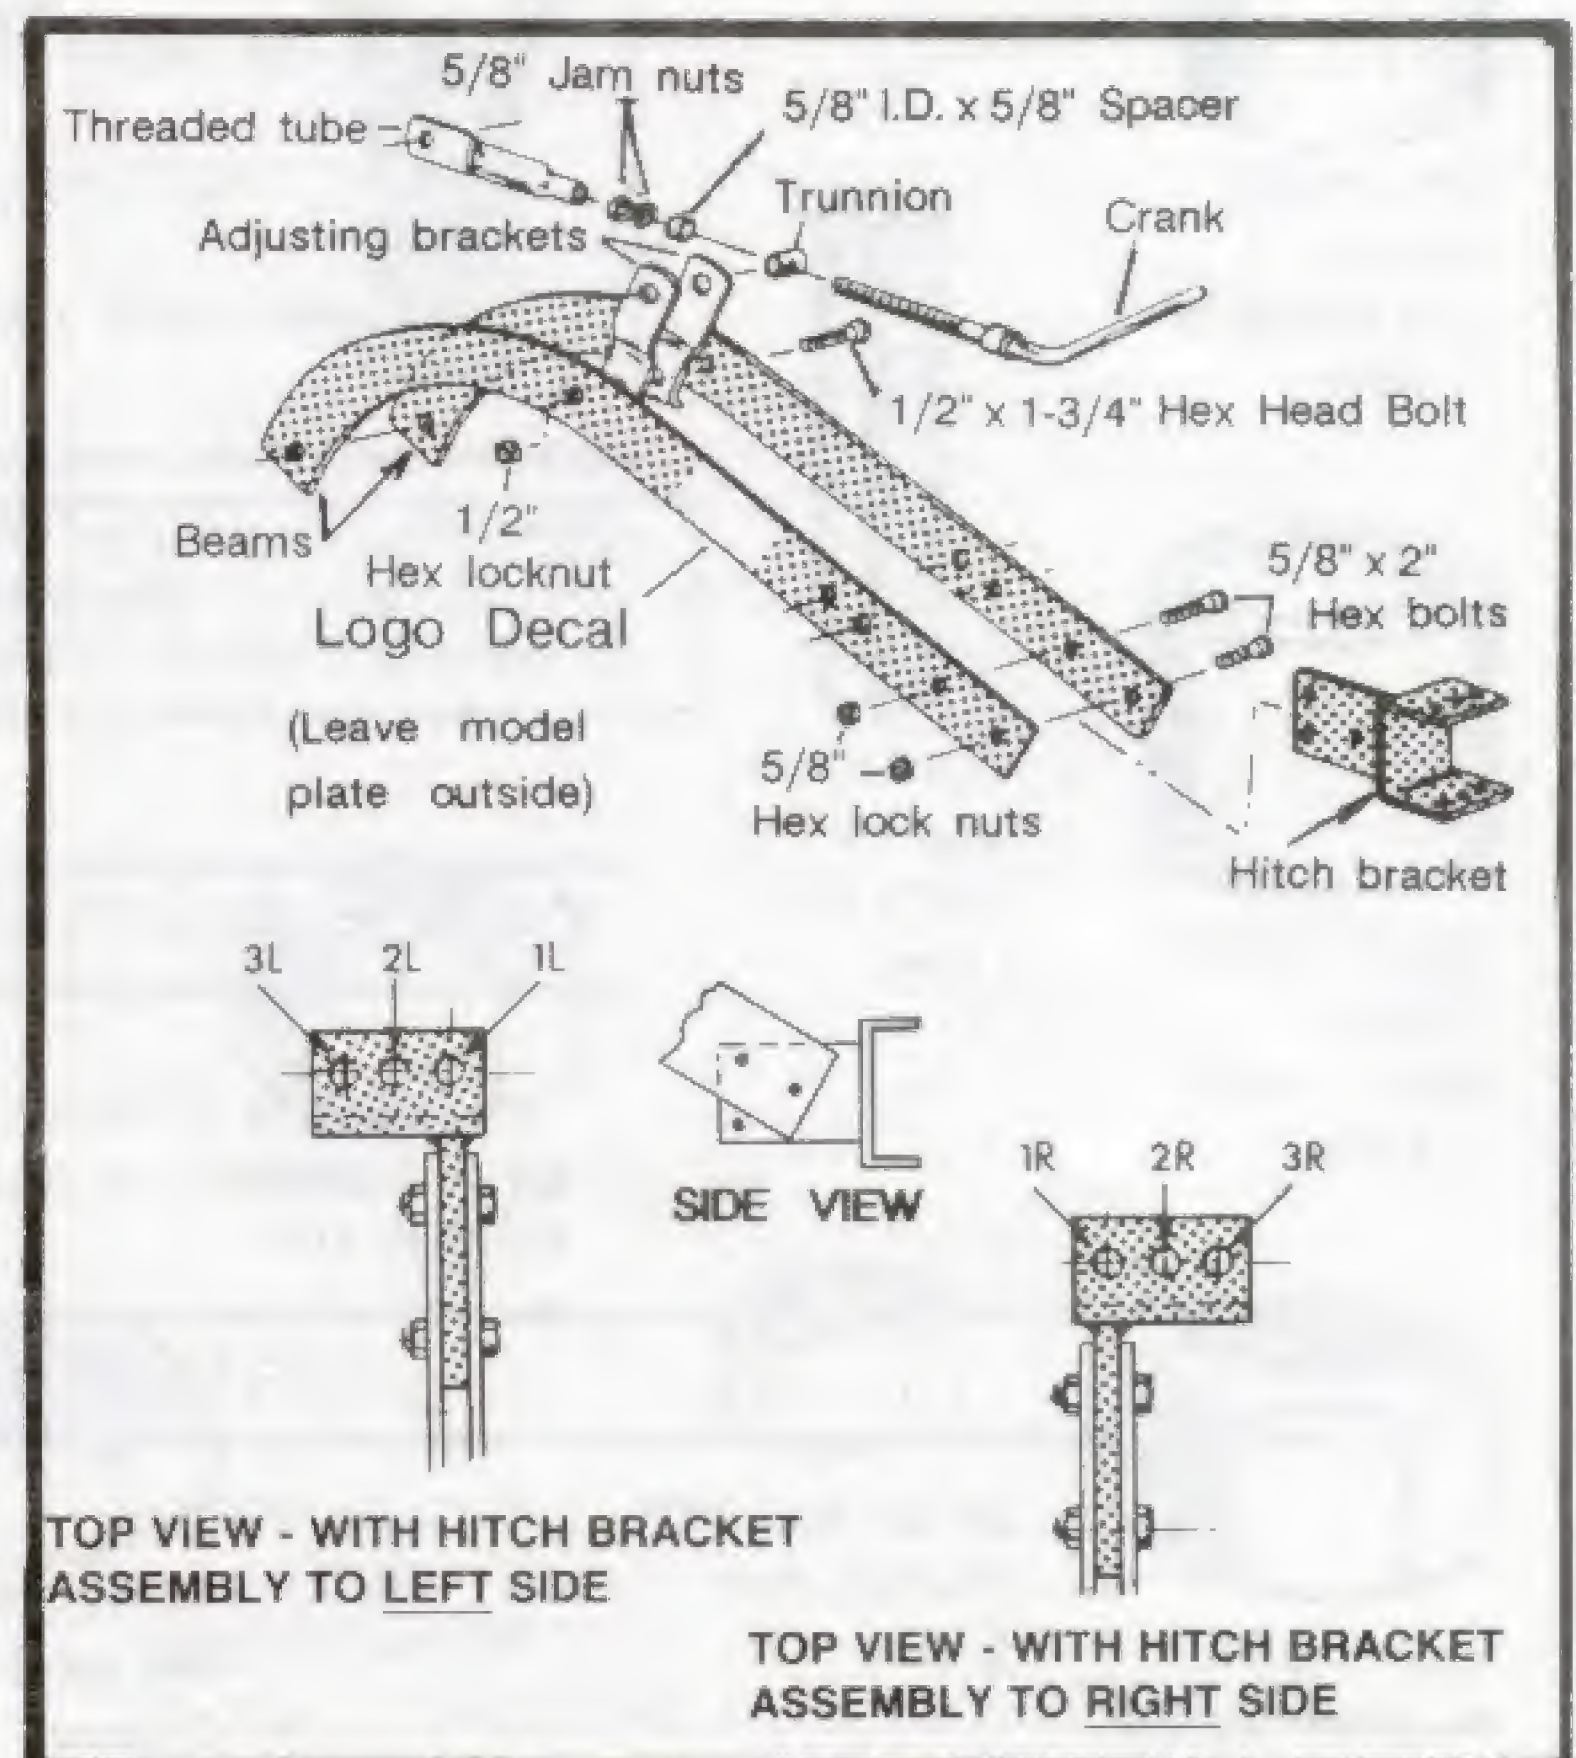

FIG. 1
Refer to Fig. 1
- Mount the Plow to the Sleeve Hitch with the Hitch Pin furnished with the Hitch. Refer to Figure 1 and Table 1 to select the proper mounting hole.
- When plowing heavy clay soil or sod, it will help to reduce the width of the plow cut. This can be accomplished by hitching the plow one or two holes to the LEFT of the recommended setting, (Refer to Fig. 1).